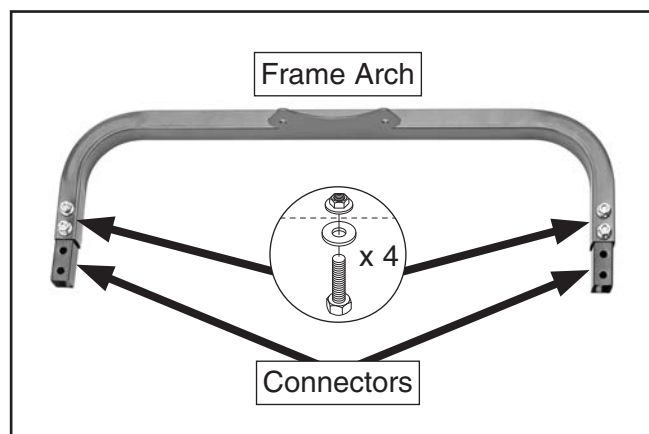

Figure 8. Connectors in frame arch fastened in place.
8. Align two holes in each connector with two holes in frame arch (see **Figure 8**) and secure with (4) $\frac{5}{16}$ "-18 x $1\frac{1}{4}$ " hex bolts, $\frac{5}{16}$ " flat washers, and $\frac{5}{16}$ "-18 flange nuts. Only hand-tighten for now.